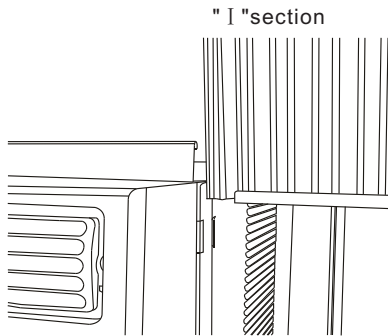

Fig.2
- B. Slide the free end " I " section of the panel directly into the cabinet as shown in Fig. 2. Slide the panel down. Be sure to leave enough space to slip the top and bottom of the frame into the rails on the cabinet.